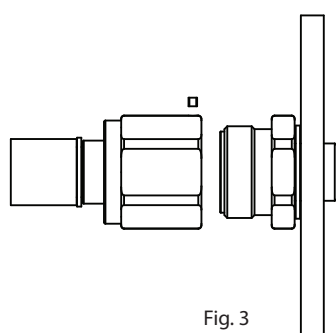

Fig. 3
4. Fit the outer section over the rear section as shown in Fig. 3, fit a sealing washer or apply suitable thread sealant to the male thread on the equipment and screw and secure the rear section on the equipment using a suitable wrench.